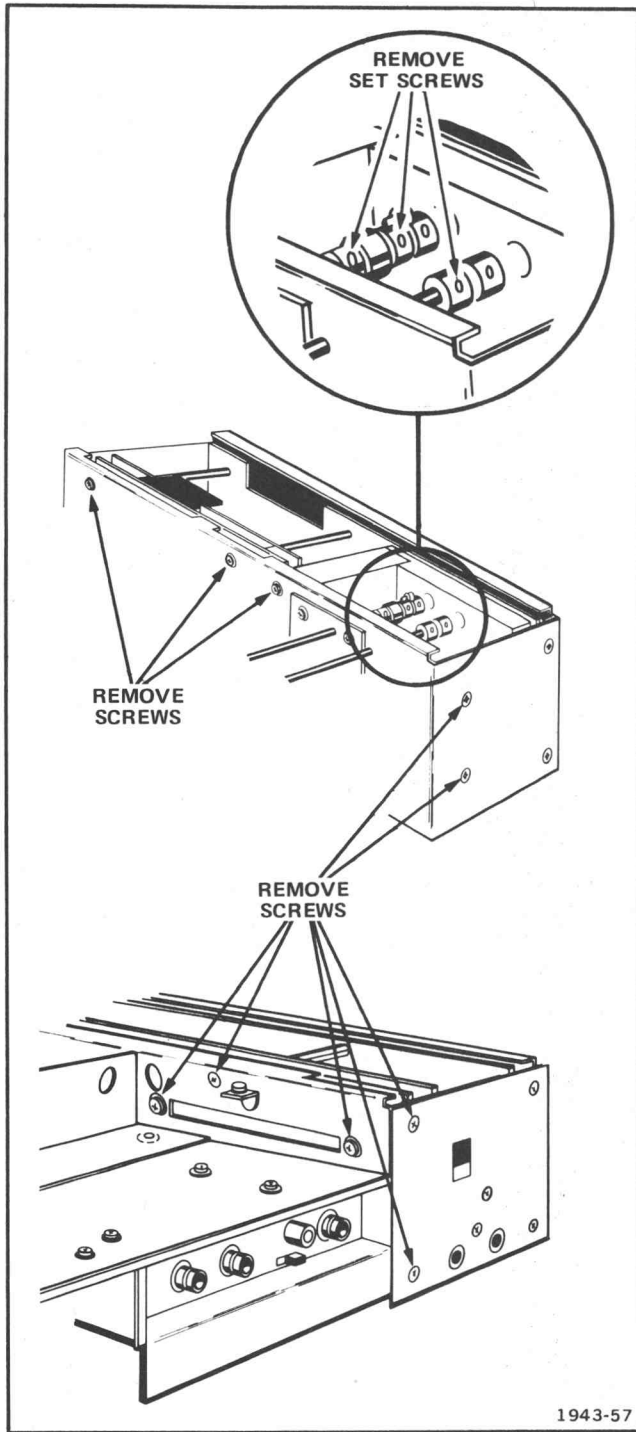

Fig 4-10
4. Remove the screws shown in Fig. 4-10.